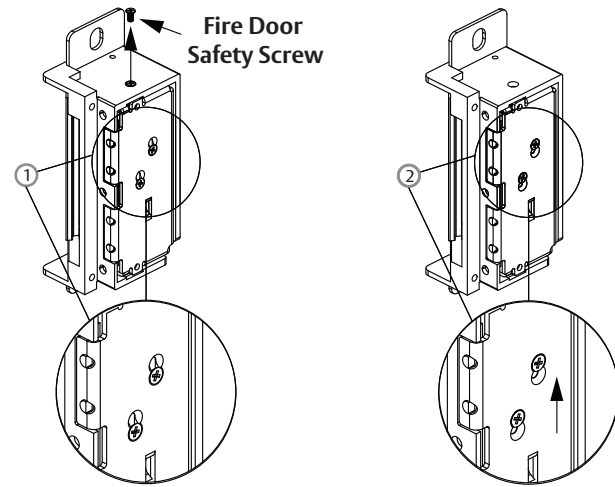

Figure 4: Fail Safe Conversion
4. IF the 4500 Series Electric Strike must be converted to Fail Safe mode, THEN CONVERT in accordance with Figure 4, "Fail Safe Conversion," on Page 3.
10. REMOVE the Fire Door Safety Screw as shown in Figure 4.